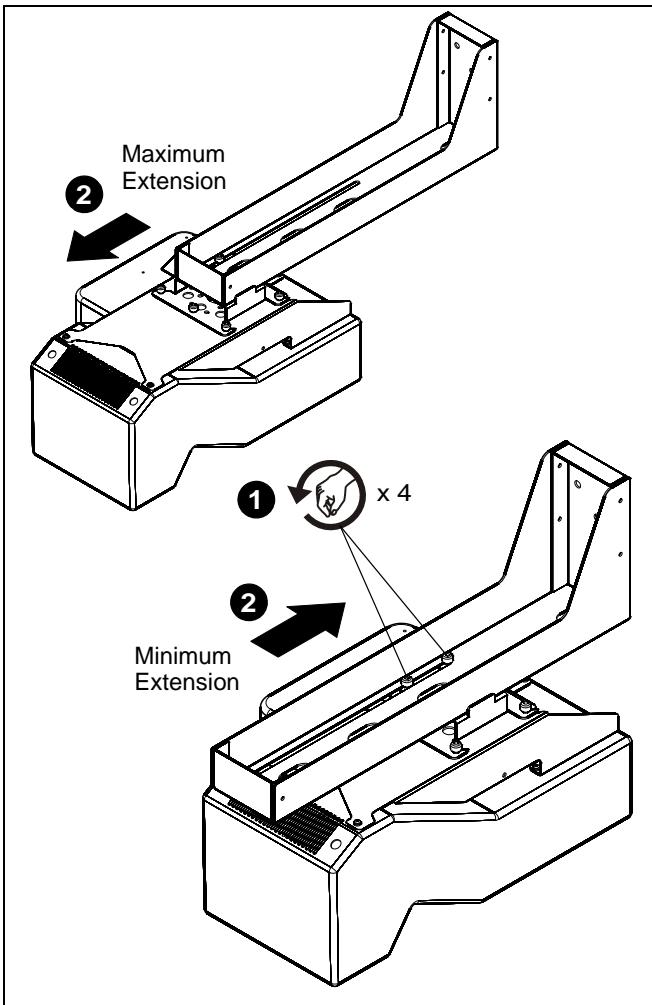

Figure 4
2. Move projector to get maximum or minimum extension. (See Figure 4)